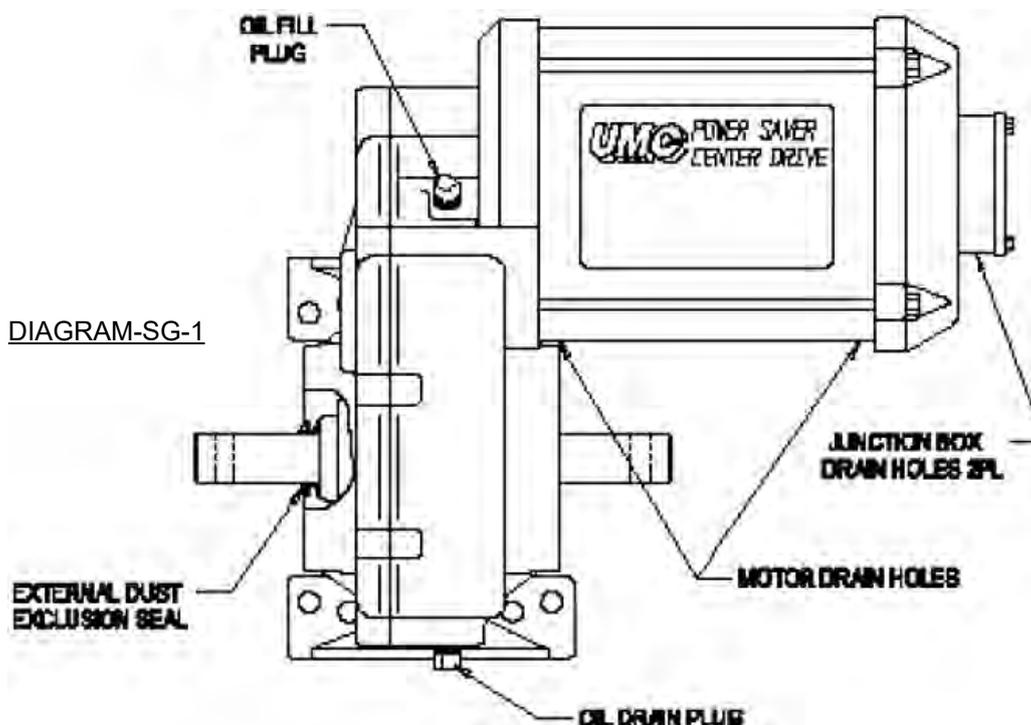

Figure 1-15.
3. The two (2) drain holes located under the motor can must be kept clear to allow for drainage of accumulated moisture inside the motor if required. Do not Western or remove plug.
4. The two (2) drain holes located under the end bell must be kept clear to allow drainage of accumulated moisture inside of the junction box.
**B. Helical gear center drive lubricants Reference Figure 1-15. :**